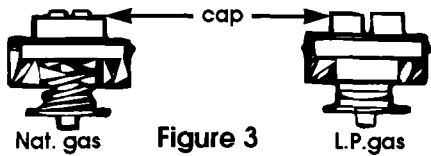

Figure 3
2. Remove the cap with screwdriver slot and turn it over. Replace the cap. This cap will then have the marking "LPG10." Do Not disturb or remove the spring beneath cap. See Figure 3.